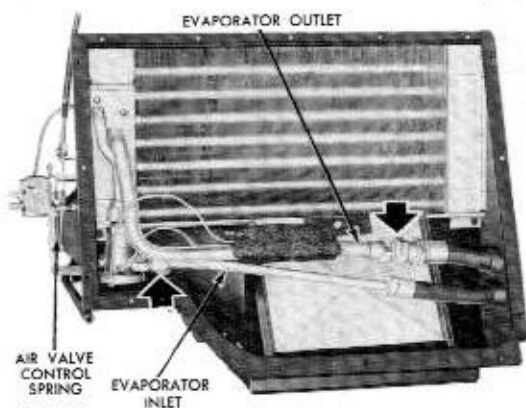

Fig. 5-10—Evaporator Suction and Discharge Line Connections—Ranger and Pacer—1958—E-2634)
6. Disconnect the suction and discharge lines at the fittings. (See figure 5-10.) Seal the evaporator and lines to prevent the entrance of dirt and moisture.
6. Connect the suction and discharge lines at the fittings shown in figure 5-10.